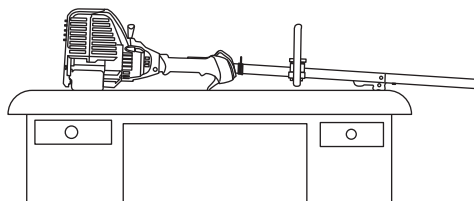

Fig. 19
2. Place the engine on an elevated, level surface with the cutting head shield hanging off the surface to get an accurate oil level reading (Fig. 19).
5. Look into the oil fill hole, use a flashlight if needed. The oil should be just touching the innermost thread (Fig. 19).